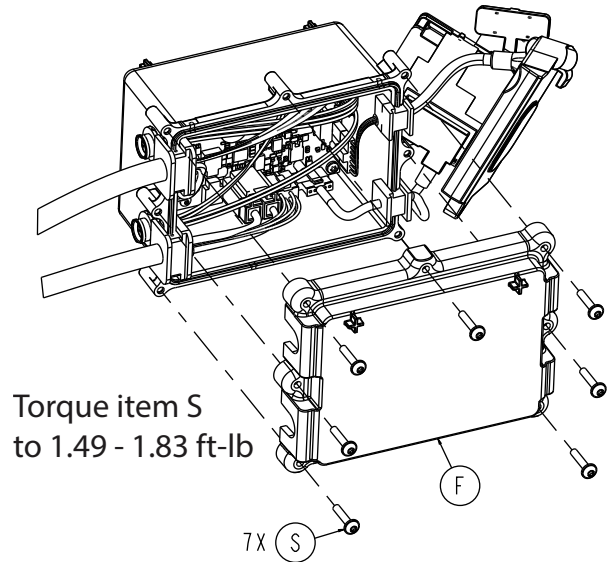

Figure 40 – Remove the HBC top cover screws
10. Using a T20 Torx driver, remove the seven round washer head tapping screws (S) that secure the top cover (F) to the HBC enclosure assembly (Figure 40). Remove and save the top cover. Save the screws.